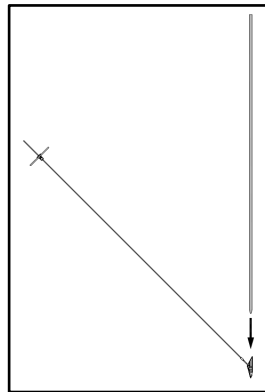
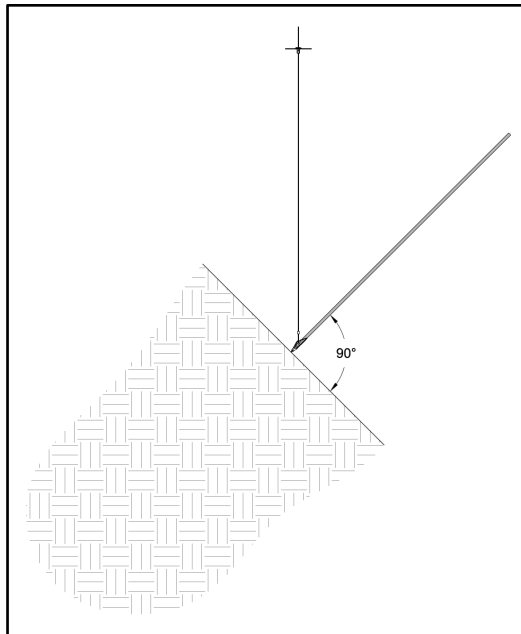

Figure 15: Insert Drive Steel into Anchor
Figure 16: Position Anchor Head / Drive Steel Tip
2. Insert the tapered end of the drive steel into the hollow cavity of the anchor head. Position the anchor head/ drive steel tip above the ground at the drive location (Figure 15 and Figure 16).